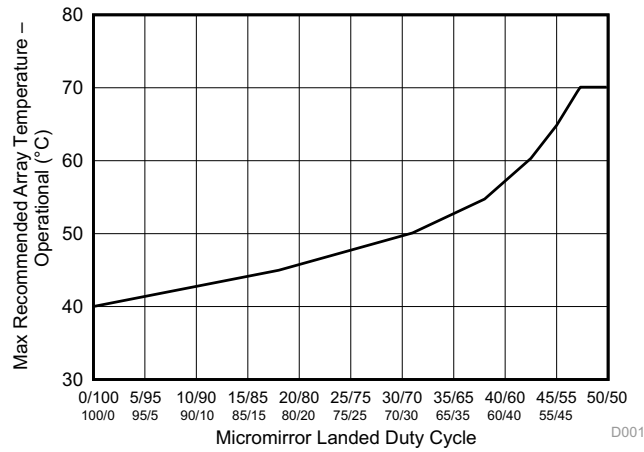

Figure 1. Max Recommended Array Temperature – Derating Curve
- (13) Per Figure 1, the maximum operational array temperature should be derated based on the micromirror landed duty cycle that the DMD experiences in the end application. Refer to Micromirror Landed-On/Landed-Off Duty Cycle for a definition of micromirror landed duty cycle.
- (14) Long-term is defined as the usable life of the device
- (15) Short-term is the total cumulative time over the useful life of the device.